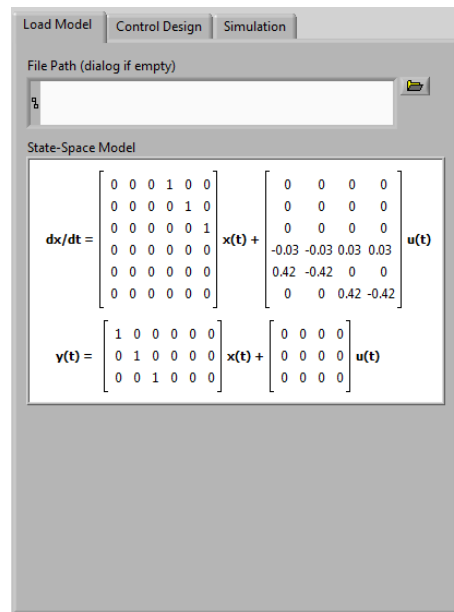

Figure 3.2: State-space model for 3 DOF Hover system
5. Load the model generated by the *3 DOF Hover Modeling.vi*. When loaded, the *Load Model* tab should look similarly as shown in Figure 3.2.